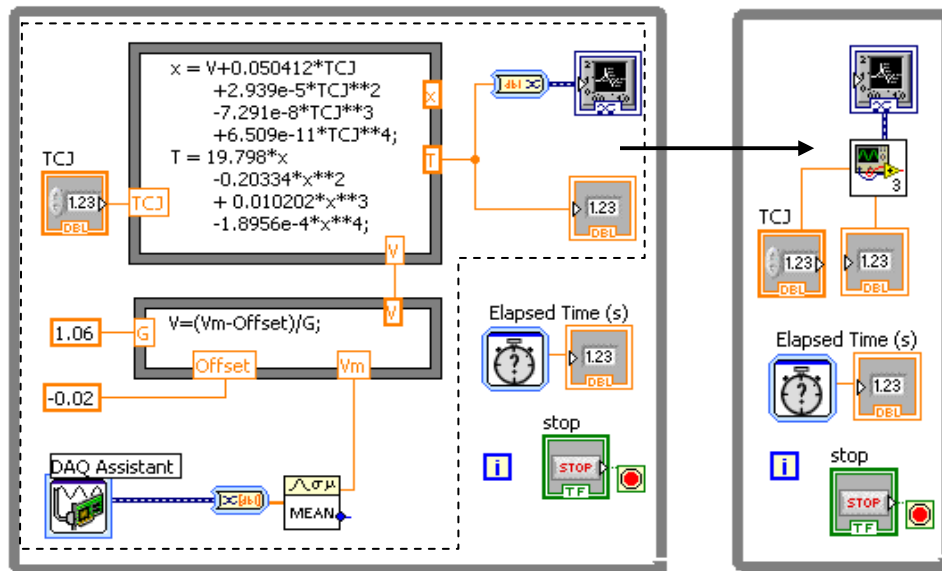

Figure A1. Replacing a group into a sub-VI.
- Delete the “Gain” and “Offset” numeric control blocks and the “Vm” indicators. Press **[CTRL-B]** to remove broken wires. Hover the cursor around the **G** input node then right-click and select **[Create]→[Constant]**. Do the same with the **Offset** input node (See Figure A1.) Enter the values found in experiment 5.
- In the block diagram window, select the **[Edit]→[Create subVI]** menu item. A small icon should appear to replace the group of blocks into a sub-VI. (see Figure A1.)